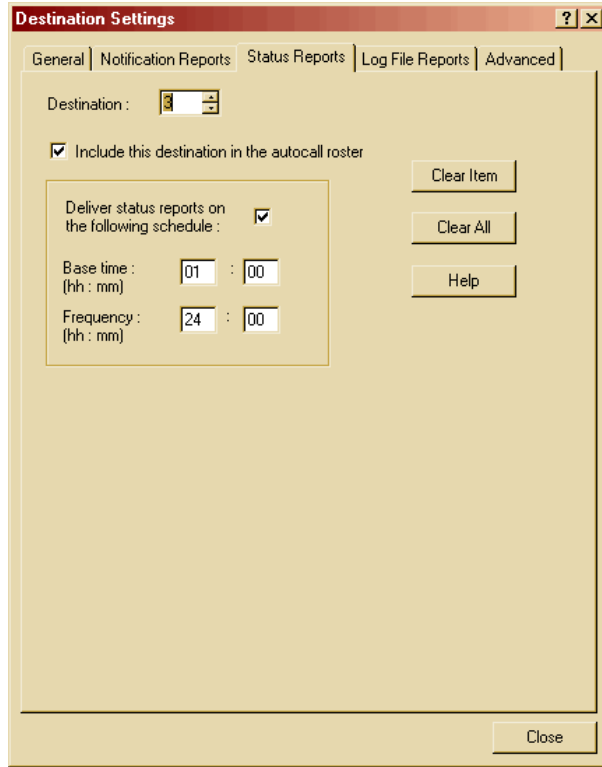

Figure 29: Destination Settings, Status Reports
27. Select the **Status Reports** tab for Destination #3 and configure it as shown in Figure 29. The status report will be delivered via Email every day at 1 AM. Since the “Include this destination in the autocall roster” box has been checked, when the Catalyst makes an auto call, an E-mail Status Report will be sent.